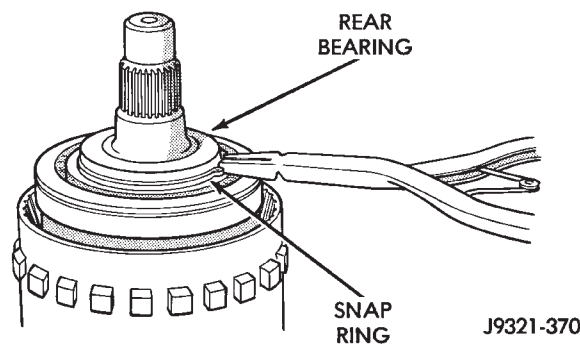

Fig. 214 Rear Bearing And Snap Ring Installation
(7) Install rear bearing and snap ring on output shaft (Fig. 214). Be sure locating ring groove in bearing is toward rear.